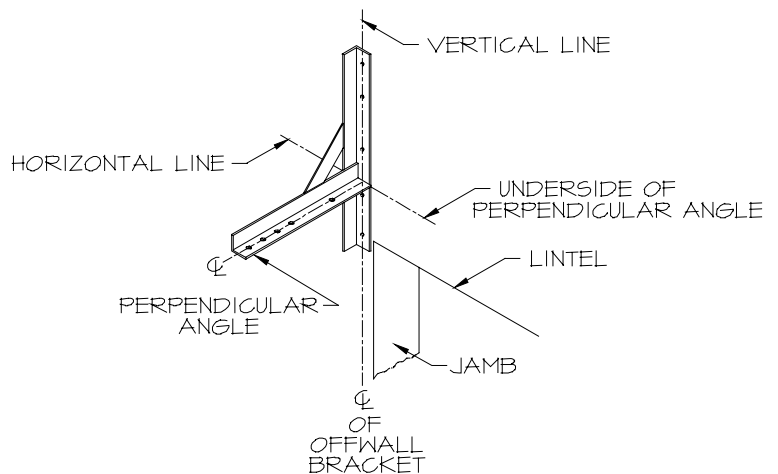

FIG. 9
- a. **Position Offwall Bracket** at intersection of horizontal and Vertical Lines (Figure 9).